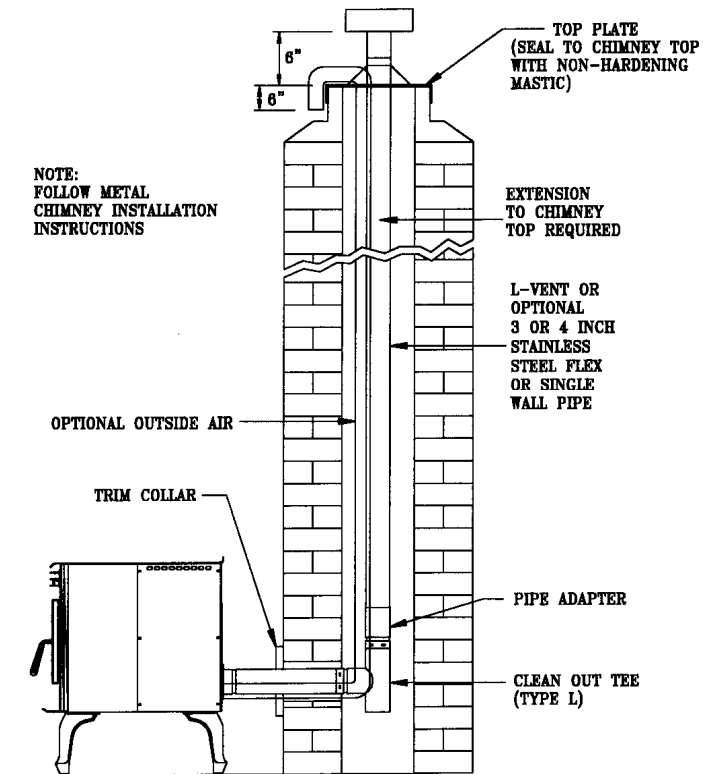

Figure 10
(Refer to figure 10)
4. Install the tee on the bottom of the vertical pipe system and lower it down the chimney until the center branch of the tee is level with the center of the hole in the masonry, as shown in Figure 10.